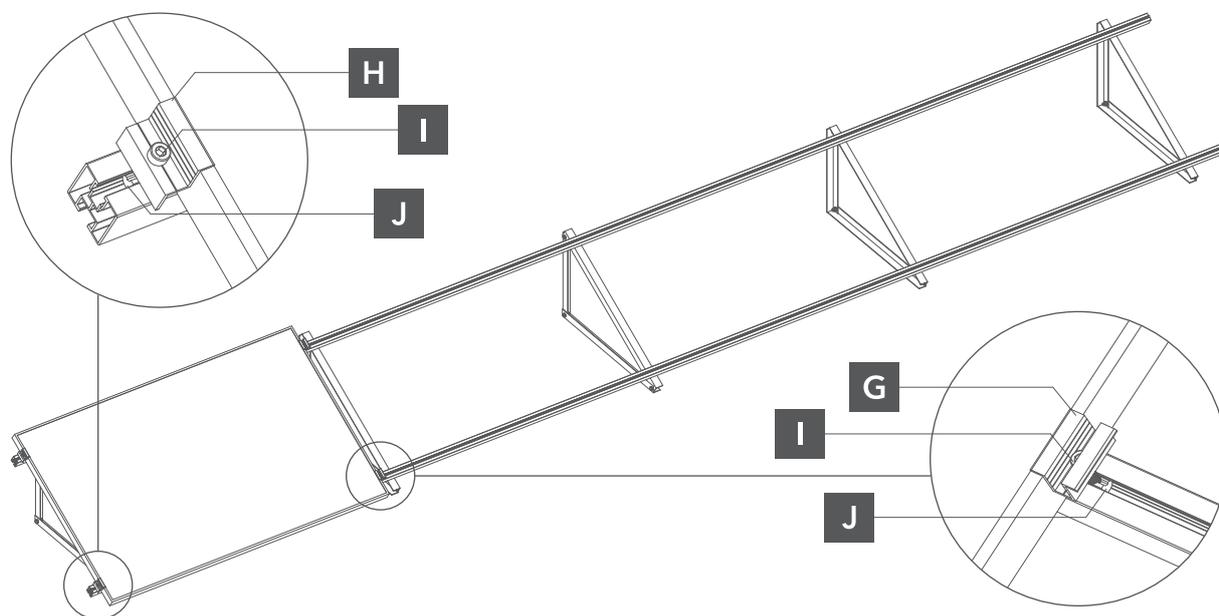

Fig. 4. attachment of the module to the mounting rail
**3** We place the first, outermost photovoltaic module on the mounting rails and fasten it with the end clamps. The end clamps are tightened with M8 hexagon socket screws and M8 lockstones. Then we install the middle clamps without tightening them. After the next modules are installed, the middle clamps can be tightened. This process should be repeated until all modules are mounted in a row (Fig. 4).